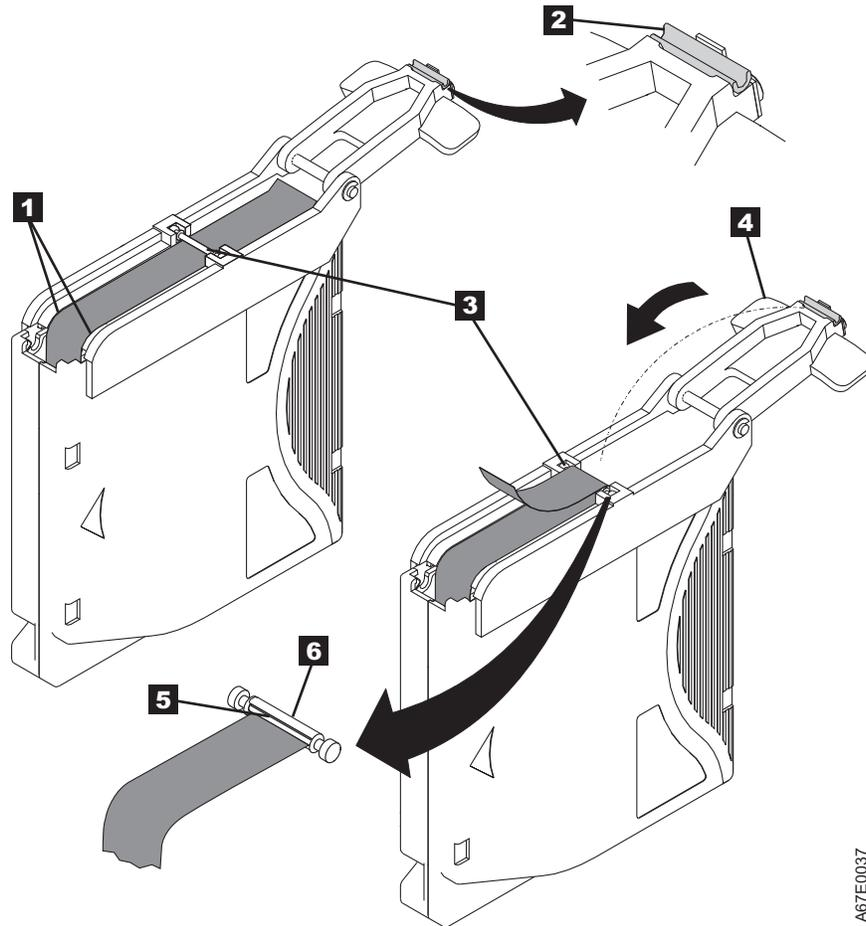

Figure 57. Attaching the leader pin to the tape
7. Position the tape in the alignment groove of the leader pin attach tool (see **1** in Figure 57 on page 257).
Attention: To prevent the leader pin from rolling into the cartridge, in this step, use care when folding the tape over the pin. Fold the tape over the leader pin and hold it with your fingers (see Figure 57 on page 257).